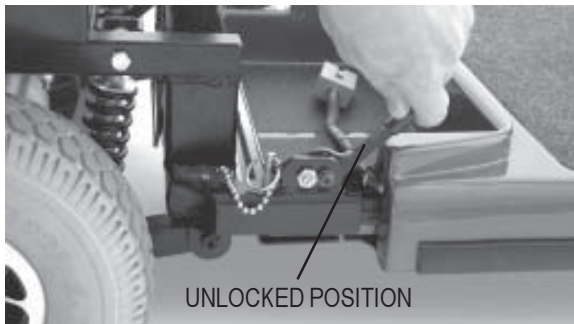

FIGURE 24. LOCKING CAM LEVERS
- Push the locking cam levers forward and remove the ball detent pins. See figures 24 and 25.